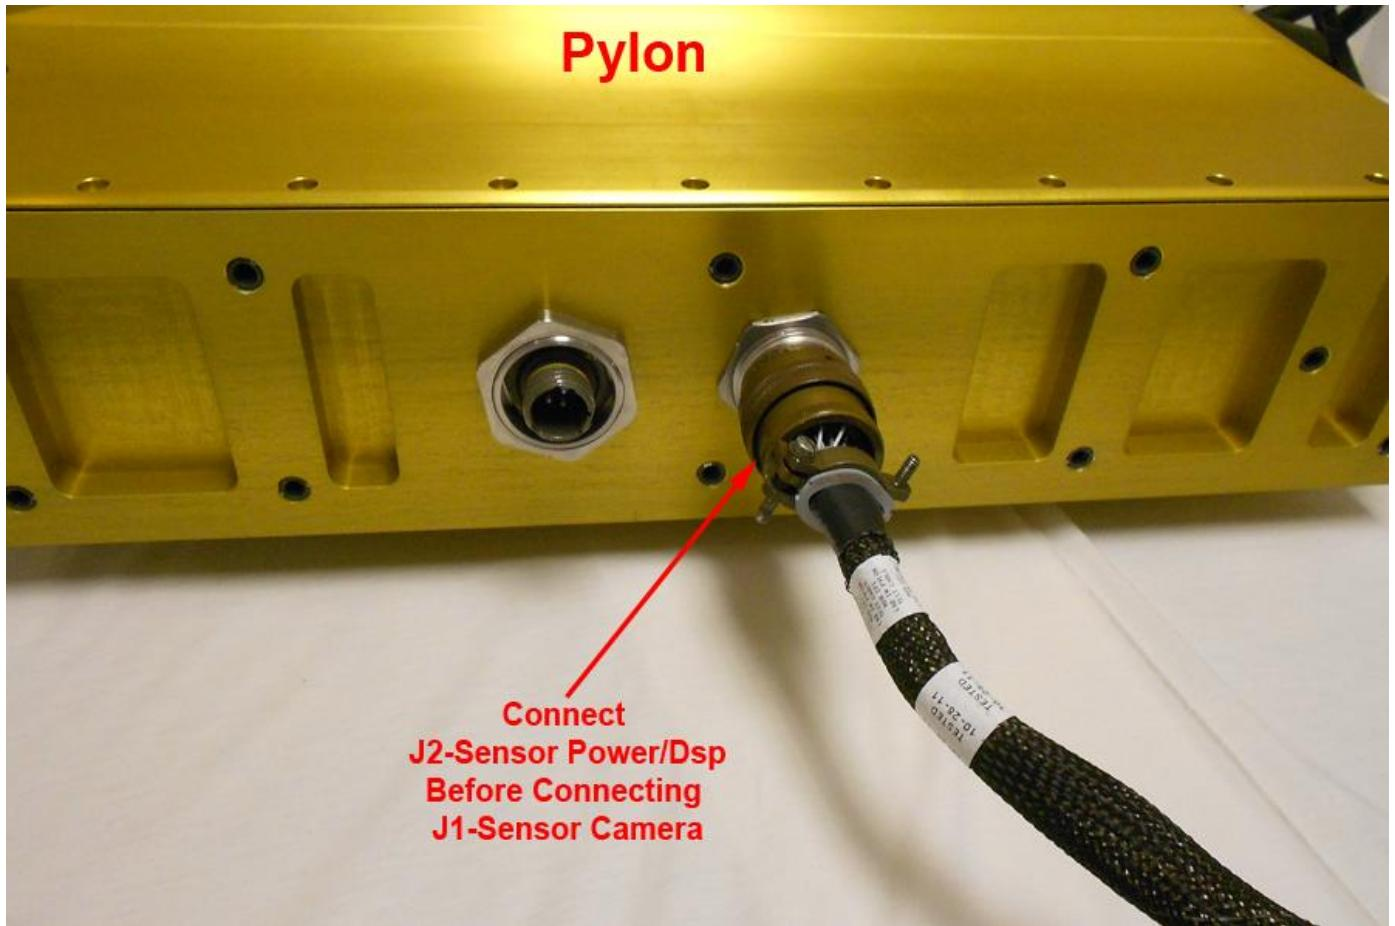

Figure 2.2.13 Connecting the power/dsp cable to the Sensor Head
5. Connect the power/DSP cable to J2 on the Pylon. See **Figure 2.2.13:** Connecting the power/dsp cable to the Pylon.
7. Connect the power/dsp cable that runs from J2 on the Data Acquisition System to J2 on the Sensor Head. See **Figure 2.2.13**: Connecting the power/dsp cable to the Sensor Head.